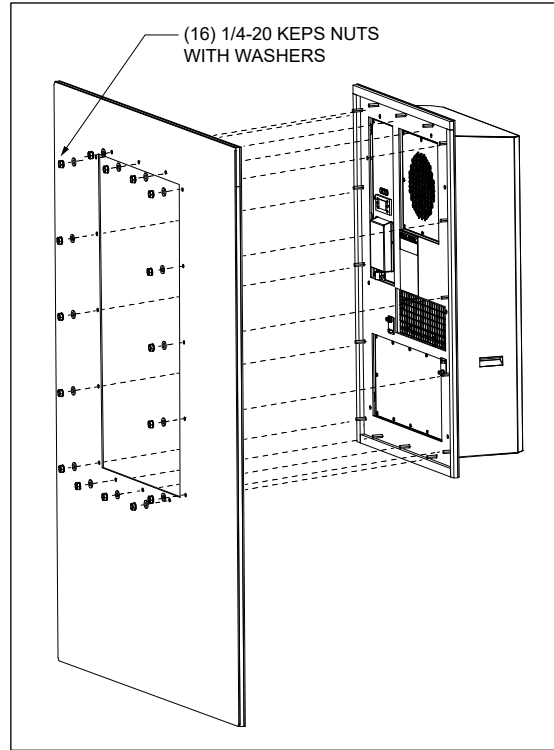

Figure 4 Mount Kit on Cabinet Door
4. Secure the kit in place using the 1/4" Keps nuts and washers that are included with the kit (Figure 4). Torque the nuts to 60 in-lbs.